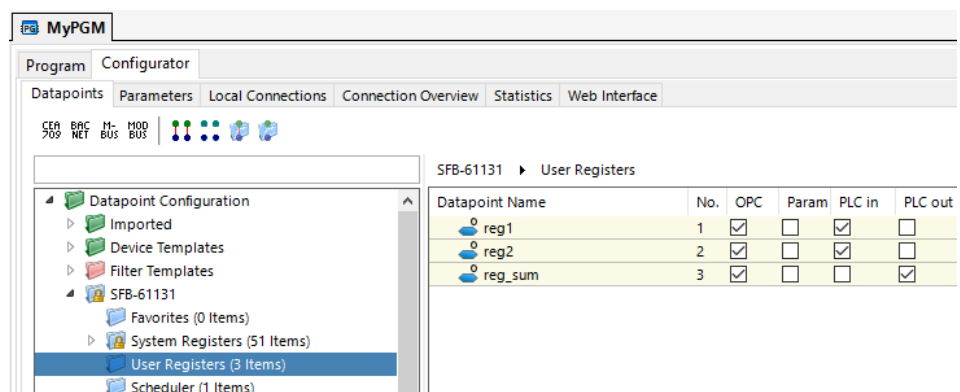

Figure 45: Setting PLC in and out on data points in the Configurator
- Open 'MyPGM' and go to the **Configurator** tab. This opens the Configurator for this IEC 61131 program. Create data points as needed, e.g., reg1, reg2, reg_sum. Set **PLC in** on reg1 and reg2 and set **PLC out** on reg_sum as shown in Figure 45. Click on **Save** in the toolbar.